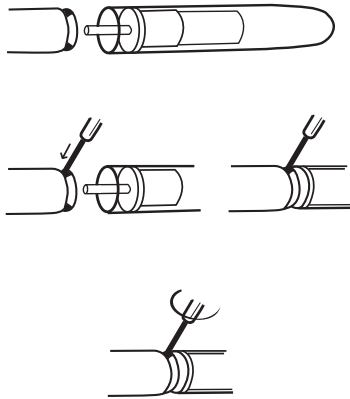

Figure 3. Tip Application to the Dura-II Prosthesis
6. **Assemble Prosthesis** – The body cylinder is bi-directional. Proximal or distal tips may be applied to either end. To assemble the tips to the body cylinders, use the hex wrench supplied with each pair of body cylinders to **tighten screws securely** (see Figure 3). Insert tip pin fully into receptacle on end of body cylinder. Hold tip in place while tightening set screw with hex wrench. When set screw is firmly seated, continue turning the hex wrench until the wrench shaft slightly flexes.